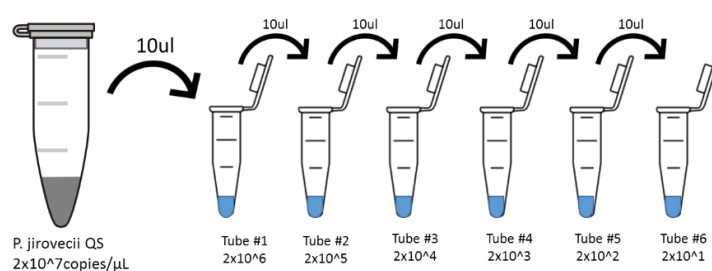

Figure 2. *Pneumocystis jirovecii* Quantitative Standard serial dilution
4. Repeat the serial dilution up to tube #6, reaching a final dilution of 2×10^1 copies/ μ L (see Figure 2) below